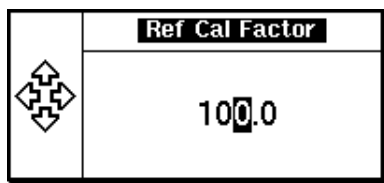

Figure 6-3 Reference Calibration Factor pop-up window
- 4** If required, change this setting by pressing the channel . The reference calibration factor pop-up window is displayed as shown in Figure 6-3